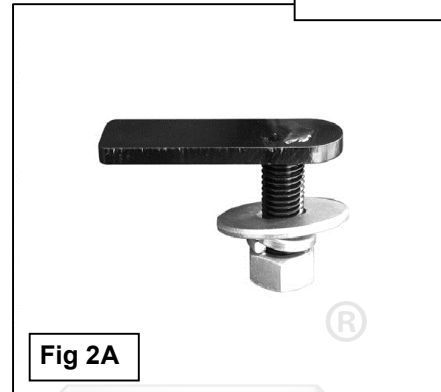

Fig 2A
- Starting at the driver side front of the vehicle, locate the three factory holes, (1 round and 2 oval holes), in the bottom of the left front floor panel, **(Figure 1)**. Insert (1) 12mm x 35mm Bolt Plate into the smaller, (inner), oval hole and feed the threaded end back out through the larger, (outer), oval hole, **(Figures 2A & 2B)**. Next, insert (1) 12mm Bolt Plate into the oval hole in the bottom of the inner frame channel, **(Figure 3)**.